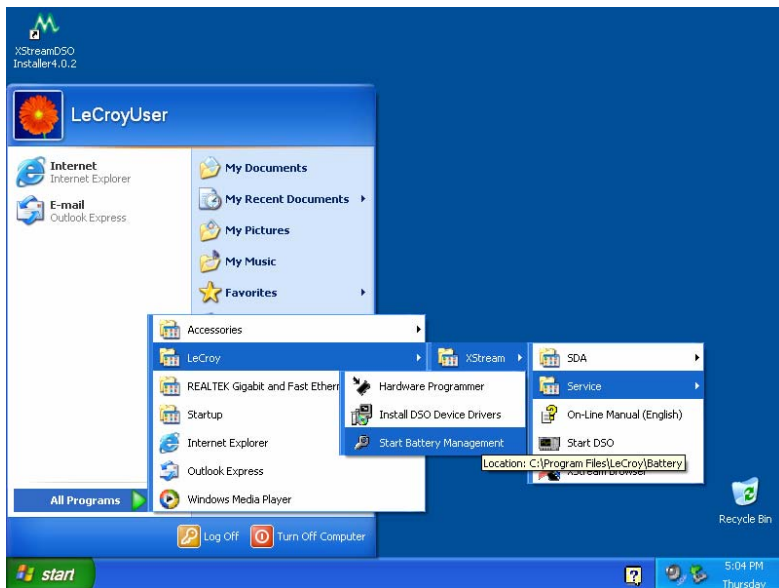

Figure 5. Starting up from [Start] Menu
7. From the [Start] menu of Windows, select [Programs] -> [LeCroy] -> [XStream] -> [Services] -> [Start Battery Management]. (See Figure 5.)